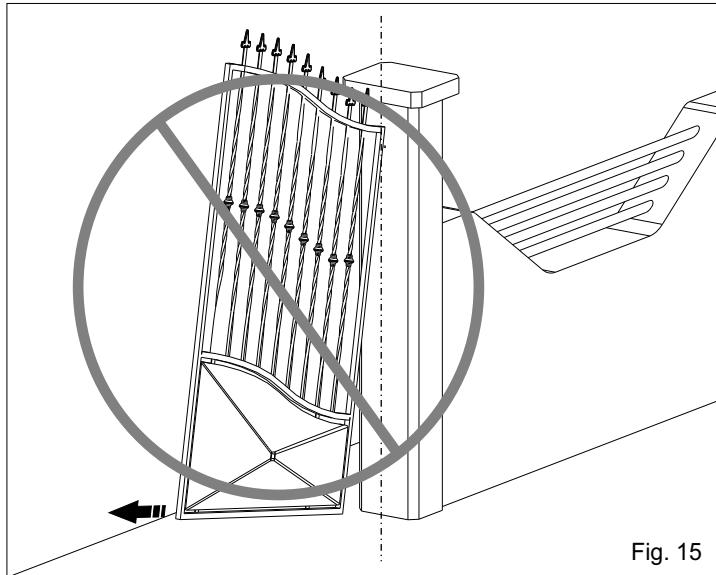
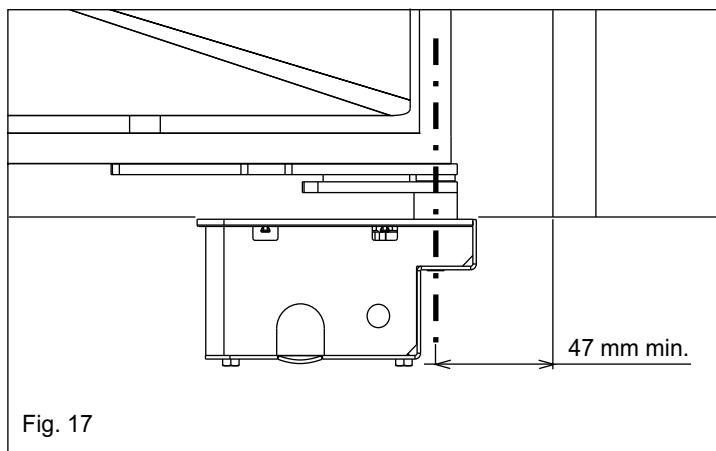

Fig. 15
Fig. 17
**3.3.** Be careful not to place the leaf outside the axis (Fig. 15 and 16), but make sure the shaft corresponds to the hinge rotation axis remembering that the minimum distance from the pillar is 47 mm (Fig. 17).